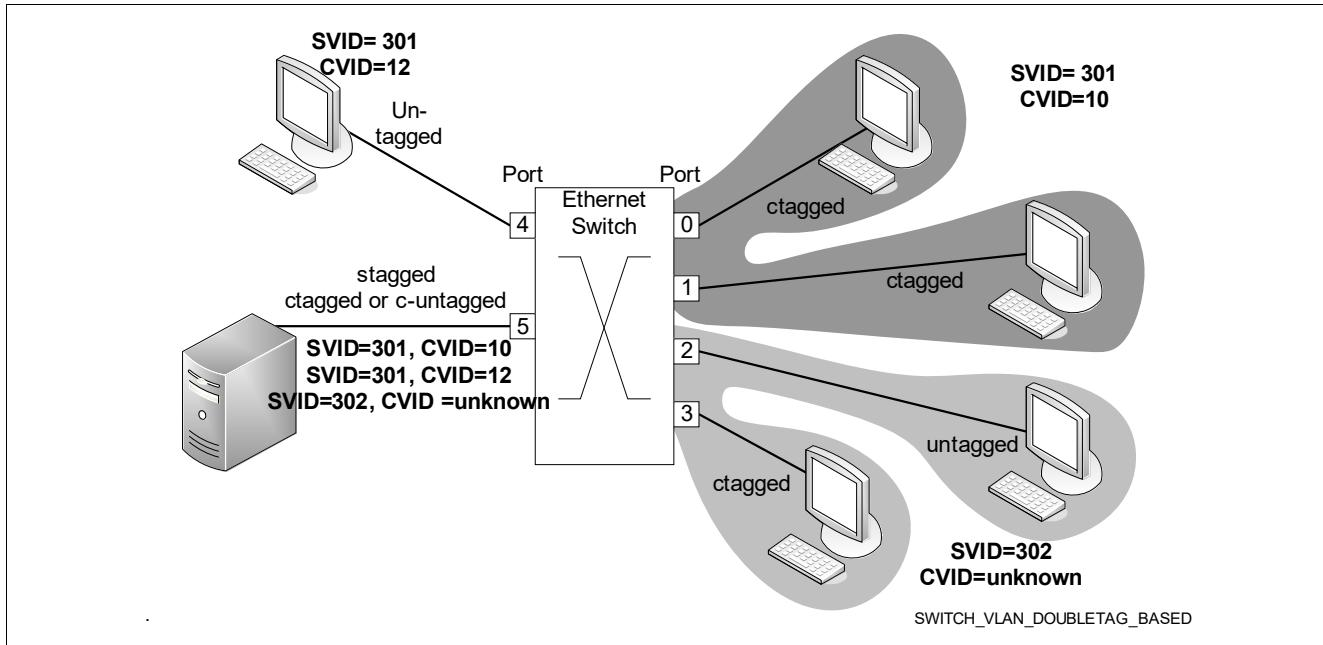

Figure 33 Double Tag and Port based VLAN Example
**Figure 33** shows an example where six LAN stations are connected to a single 6-port switch device. Port 5 is connected to a server and may transmit and receive double tagged VLAN packets of any of the defined groups.